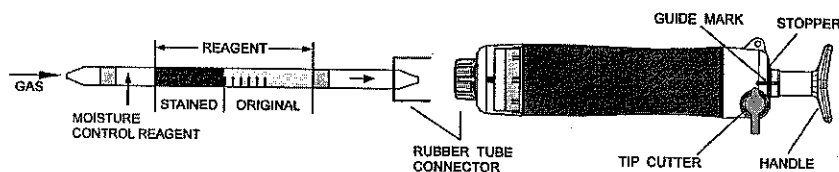

Fig.1
- ② Insert the detector tube into aspirating pump securely as shown in Fig.1. (Arrow mark shall point to the pump.)
- ③ Align the guide marks on the handle and stopper of the aspirating pump.
- ④ Pull the pump handle at full stroke until it locks and wait for 1.5 minutes or until the completion of sampling is confirmed with the flow indicator of the pump (See descriptions about the flow indicator in the instructions of the pump).
- ⑤ On completion of sampling, read the scale at the maximum point of the stained layer.
- ① Temperature; Correct the tube reading by following temperature correction table.